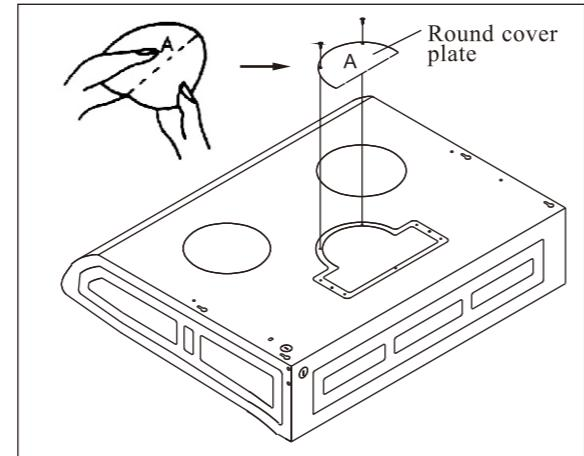

Fig.3 Fit the round cover plate
- Cut the round cover plate into 2 halves. Then screw Part A with 5/16" L X 5/32" Dia. Screws on both sides. (Fig3)